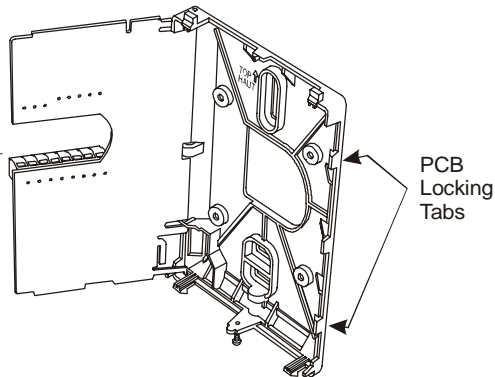

Figure 2: Opening the Thermostat PCB
- Carefully pull the locking tabs on the right side of the thermostat mounting base and unlock the Printed Circuit Board (PCB). Open the PCB to the left as illustrated in Figure 2.